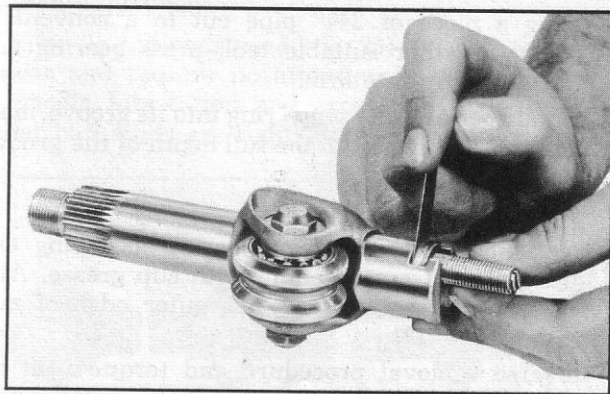

Fig. 17—Checking Sector Shaft Lash Adjuster End Clearance
2. Assemble the lash adjuster with shim in the slot in the end of sector shaft. Check the end clearance which should not be greater than .002" (fig. 17).